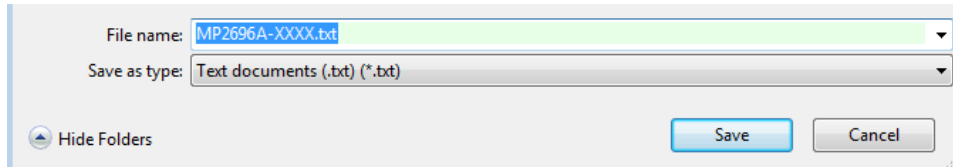

Figure 11: Saving Configurations as a .txt File
- Find a location for the exported file, and click “Save.” The configurations are saved in a .txt file (see Figure 11).